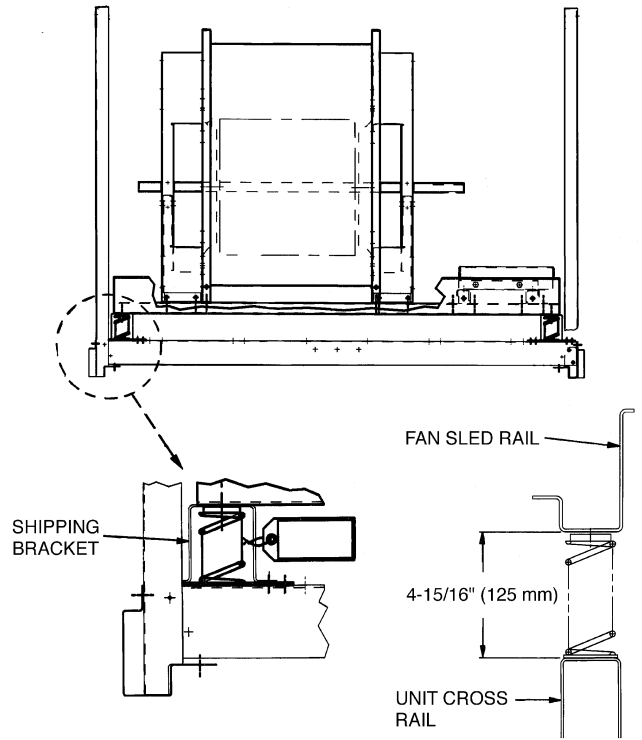

Fig. 50 — Shipping Brackets; Size 030-050 Units
4. After removing all shipping brackets, level fan sled using the adjusting screws. On all 4 corners, dimension from cross rail to fan sled should be as shown in Fig. 50.